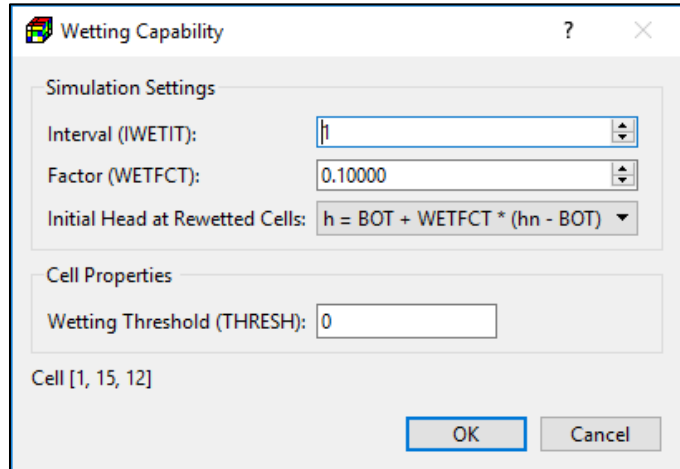

Figure 96. The Wetting Capability dialog box
1. **All input method:** Figure 96 shows the dialog box for specifying cell, vertex, or polygon properties.